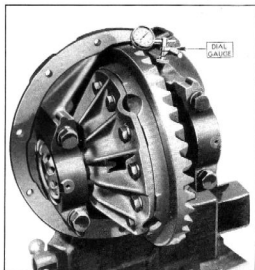

Fig. 29—Checking Ring Gear and Pinion Back Lash
5. Check ring gear and pinion back lash. This should be from .005"-.008". If it is more than .008", loosen the right-hand adjusting nut one notch and tighten left-hand nut one notch. If less than .005", loosen the left-hand nut one notch and tighten the right-hand nut one notch. Tighten down the cap screws and recheck the ring gear and pinion back lash with a dial gauge as shown in Fig. 29. Assemble and tighten the adjusting nut locks.